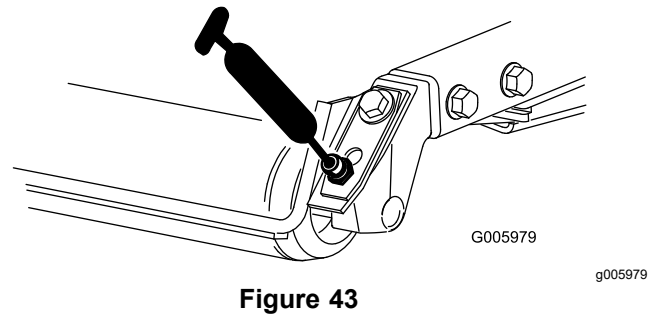

Figure 43
- Rear roller bearings (2 per cutting unit) as shown in Figure 43